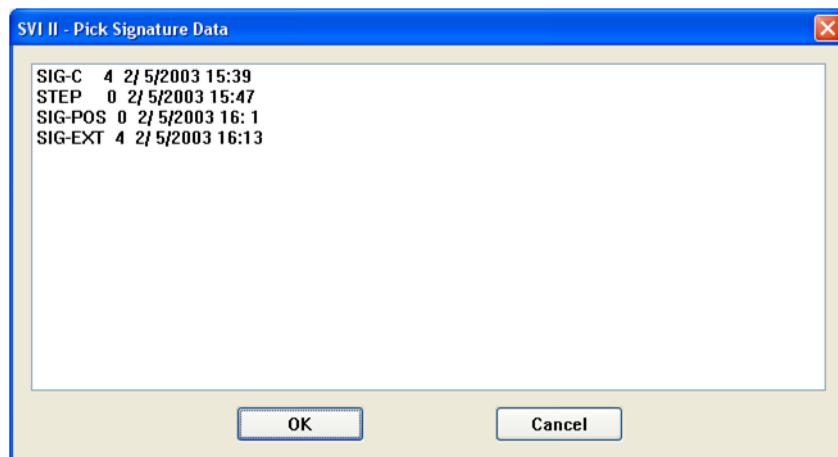

Figure 90 Pick Signature Data
2. Navigate to the file (.dgn), click **Open** and Figure 90 appears.